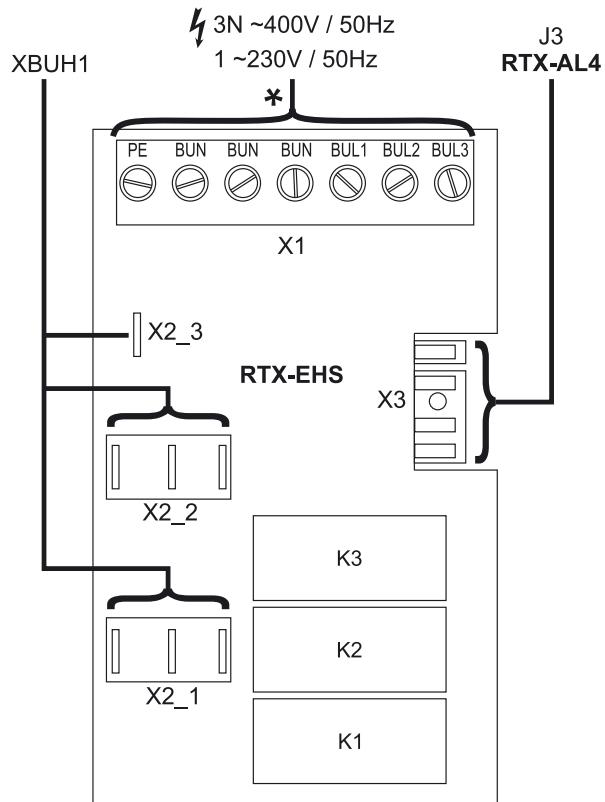

Fig. 4-20 Circuit board RTX-EHS (Backup Heater) - see section 4.5.13
- Connect the power supply for the Backup Heater to the terminal rail X1 of the switch board RTX-EHS (fig. 4-20) in the regulation housing of the ROTEX HPSU compact.